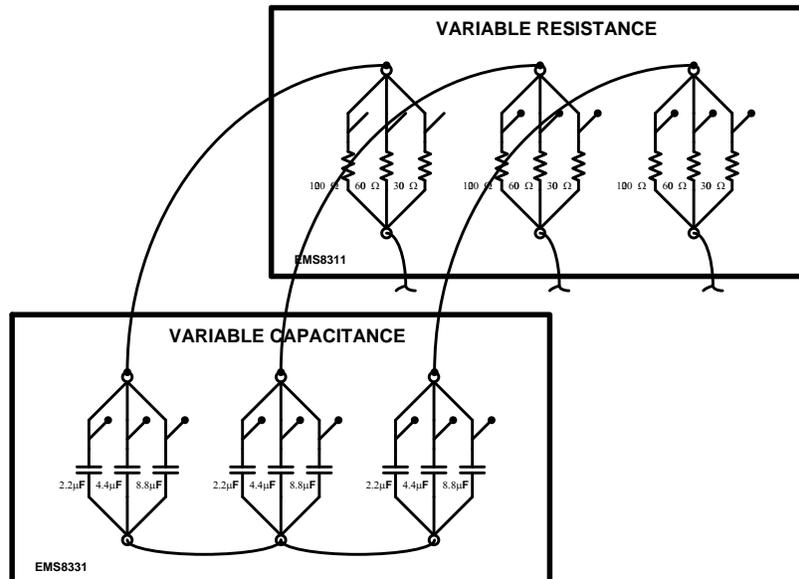

Figure 3: Step 2 Connection Diagram
Step 2: Place the two loads in parallel by connecting the top of the phase legs of the capacitor module to the top of the phase legs of the resistor module as shown in Figure 3.